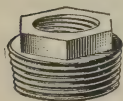
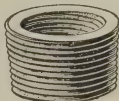

FIG. 36
FIG. 37
50. **Bushings** are fittings used to reduce an outlet in a fitting or to connect a pipe to a larger outlet. They are usually made with right-hand threads. Some of them are made with a hexagon top, as shown in Fig. 36, for convenience in screwing the bushing with a monkeywrench. Others are made without the head, as shown in Fig. 37, and are called **faced bushings**, or **flush bushings**. They can be screwed into the opening to form a neat flush finish. Some steam fitters call these bushings **thimbles**.